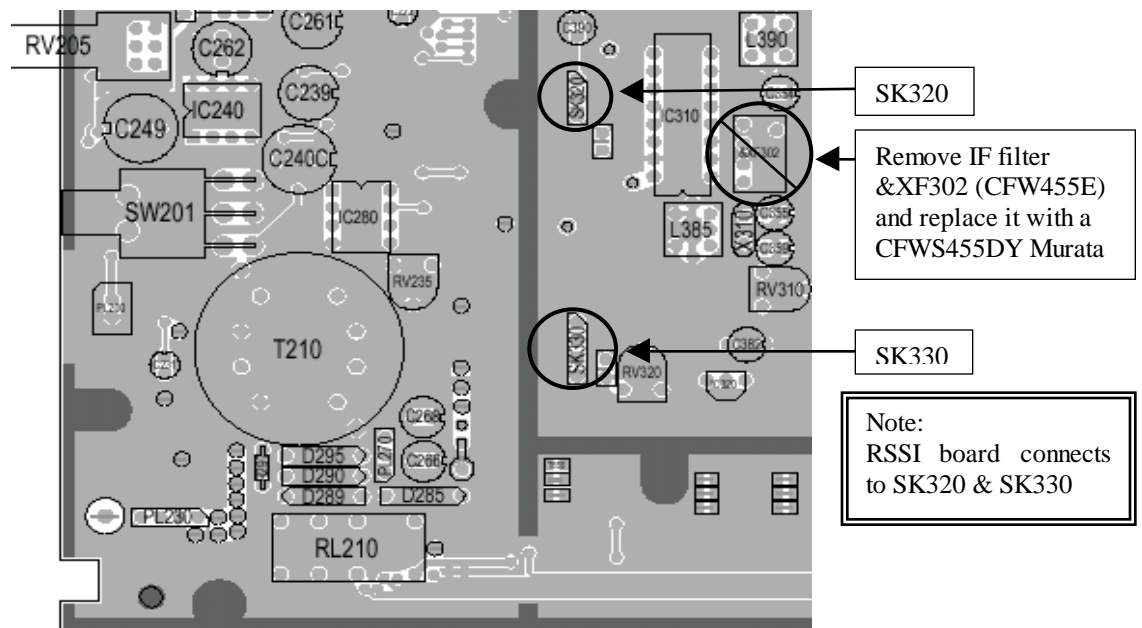

Figure 9 - T855 receiver PCB, Top Side 4/4
9. **Full channel RX** (T855-20), remove the IF filter &XF302 (CFW455E) and replace it with a CFWS455DY (Murata). Refer to Figure 9 page 9
11. Install the RSSI PCB T800-04-0000 at SK320 & SK330. Add some silicone on the top, between the PCB and IF cavity's wall. Refer to Figure 9 page 9